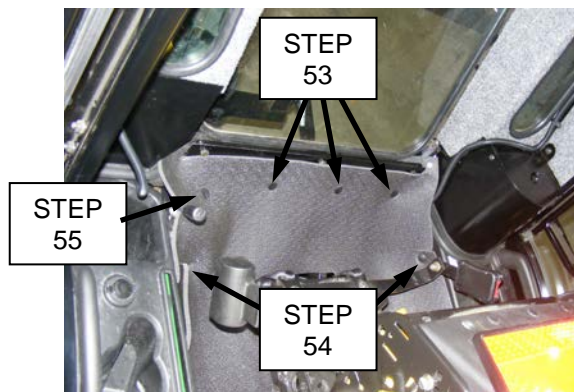

Figure 21
52. Tip seat up and place under seat seal pad (11) textured side up, as shown in **Figure 21**.
53. Secure back to seal pad with 3 holes to rear cab panel using (6) 3/8" ratchet plugs (R) **(Figure 21)**.
54. Overlap and secure LH/RH sides of seal pad to corner panels using (4) 3/8" ratchet plugs (R) **(Figure 21)**.
55. Plug single hole in under seat pad (11) with (2) 3/8" ratchet plugs (R) **(Figure 21)**.